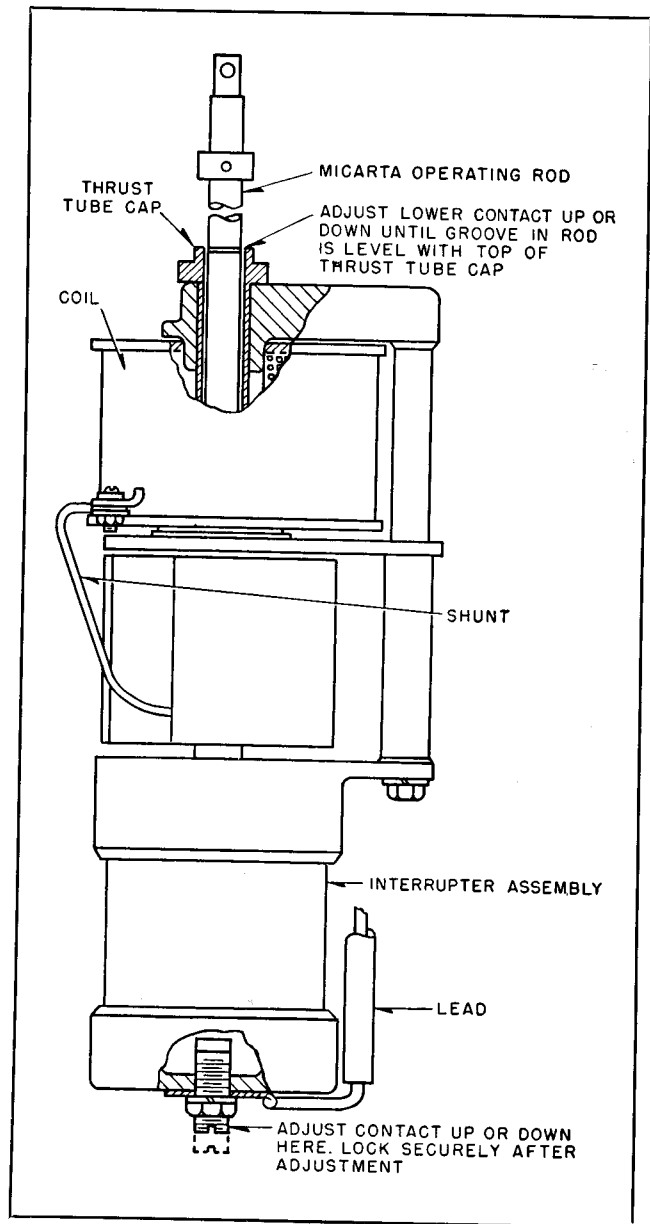

FIG. 8. Adjustment of Fixed Contact
Contact Adjustment. The fixed contact should be moved up or down until the groove on the Micarta operating rod extension is level with the top of the thrust tube cap. (See Fig. 8). This adjusts the recloser for correct position and contact pressure.
11. Adjust the position of the fixed contact as described in Fig. 8.